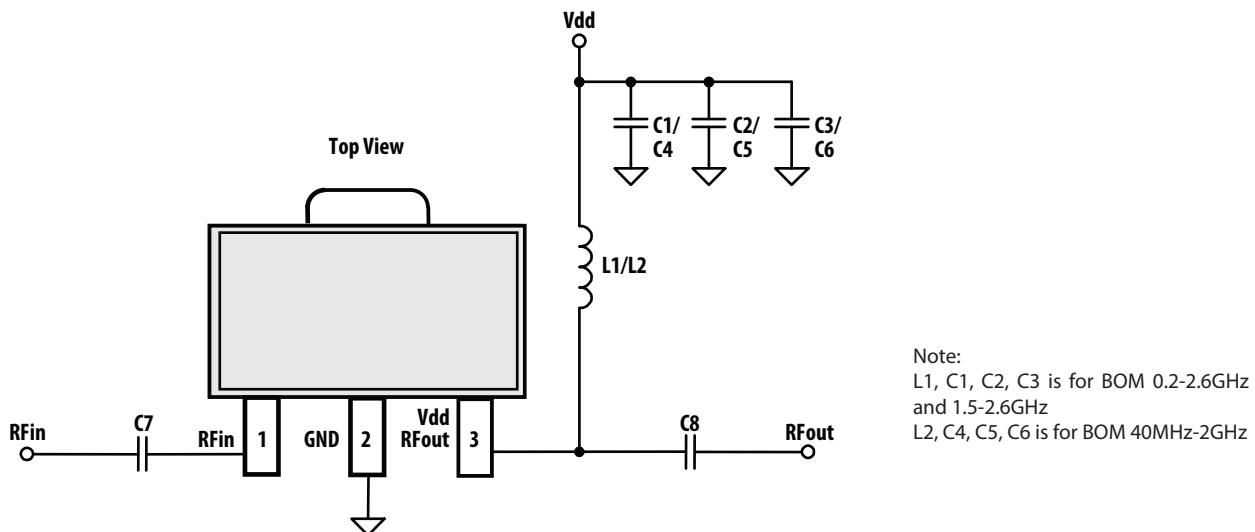

Figure 30. Application Schematic
1. Measurements obtained using demo board described in Figure 30 and 31. 40MHz data was taken with 40MHz - 2GHz Application Test Circuit, 900MHz data with 0.2GHz – 2.6GHz Application Test Circuit and 1.95GHz data with 1.5GHz - 2.6GHz Application Test Circuit respectively.
$T_A = 25^\circ\text{C}$, $V_{dd} = 5\text{V}$, Input Signal=CW. Application Test Circuit is shown in Figure 30 and Table 1.
$T_A = 25^\circ\text{C}$, $V_{dd} = 5\text{V}$, Input Signal=CW. Application Test Circuit is shown in Figure 30 and Table 2.
$T_A = 25^\circ\text{C}$, $V_{dd} = 5\text{V}$, Input Signal=CW. Application Test Circuit is shown in Figure 30 and Table 3.